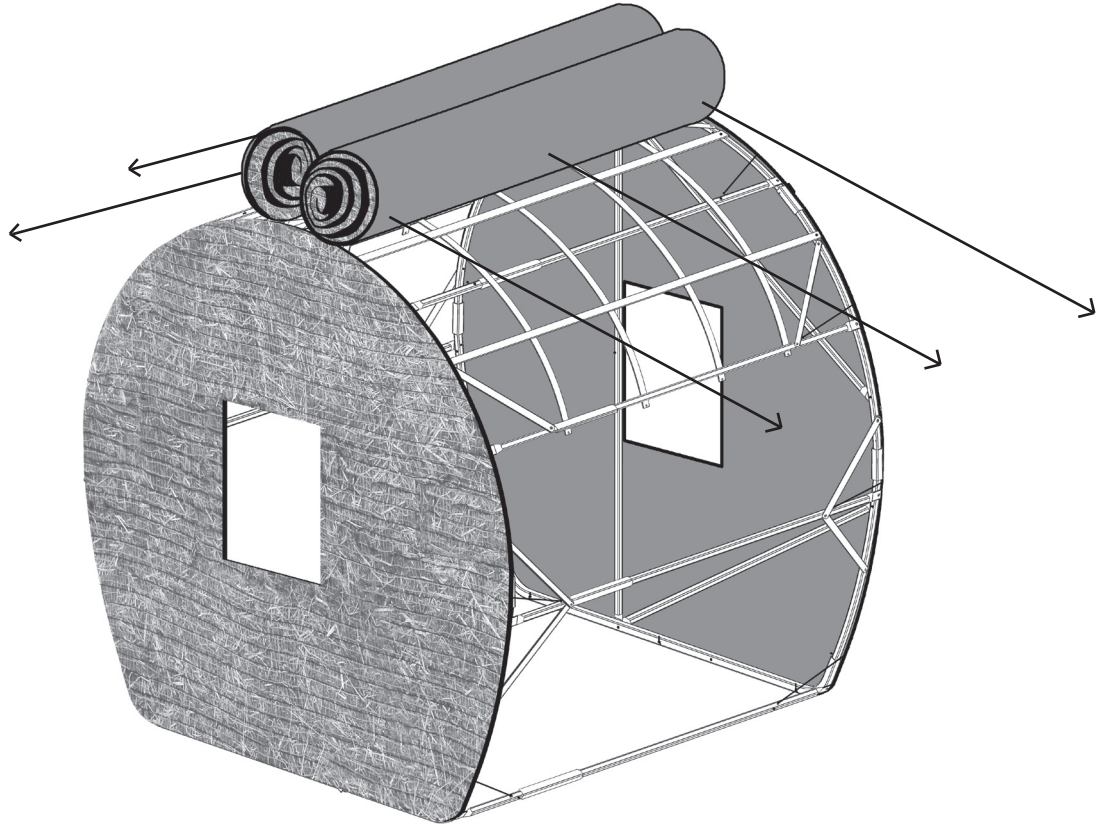

Figure 35.1
STEP 26: Locate the (1) COVER BLANKET “P” that will be installed over the remaining bale blind frame. Keeping the COVER BLANKET “P” rolled-up in it’s double curl configuration, place it on top of the bale blind frame at the center-most COMPLETED SIDE BRACE , as illustrated in Figure 35.1. Then simply unroll each end, allowing the COVER BLANKET “P” to lay over the frame.